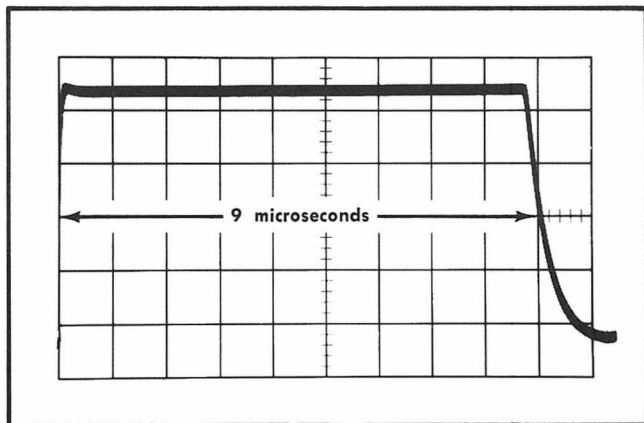

Fig. 5-6. Test oscilloscope display showing 9-microsecond pulse.
c. Adjust the A Time/cm Variable control so that the pulse duration is 9 microseconds at the 50% amplitude points. See Fig. 5-6.